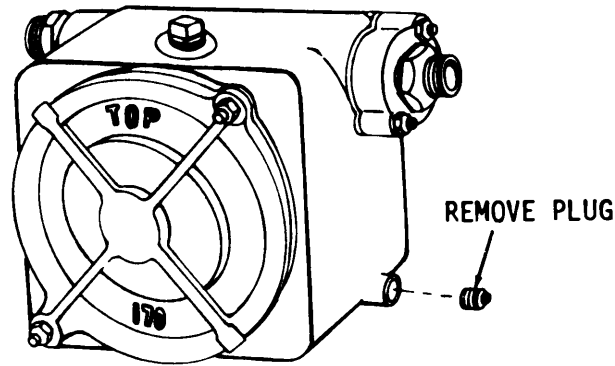

Figure 2-3. Pump draining instructions.
g. Drain pump immediately after operation as shown in figure 2-3.